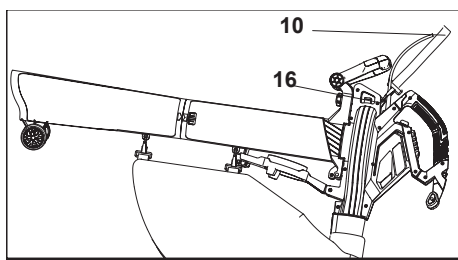
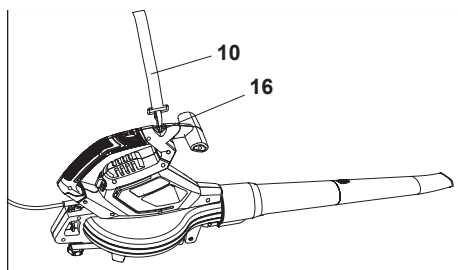

Fig. 8
Fig. 9
2. Adjust the length of the harness (10) so that the attachment clip (10a) is approximately 15 cm below your waist.
3. Place the attachment clip (10a) into the hanging hole (7) when assembled for vacuuming (Fig. 8); Place the attachment clip (14a) into the hanging hole (11a) when assembled for blowing (Fig. 9).